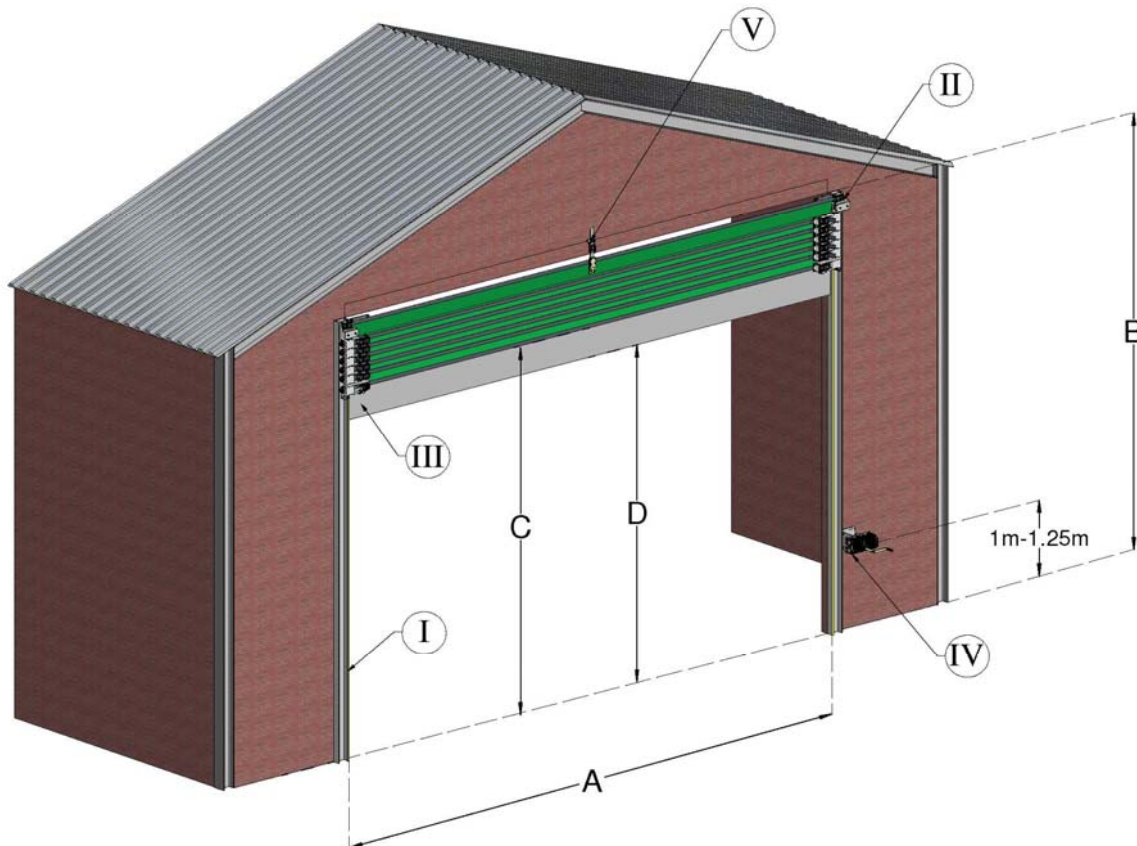

Figure 1a
1. Doors are manufactured to suit the opening, when ordering please supply Width A and Height B. Table 1 gives the access heights. The manual drive can be fitted to either side, please state preference when ordering. If preference not stated a right-hand drive (as shown in these instructions) will be supplied. Product overview is shown in Figure 1a.